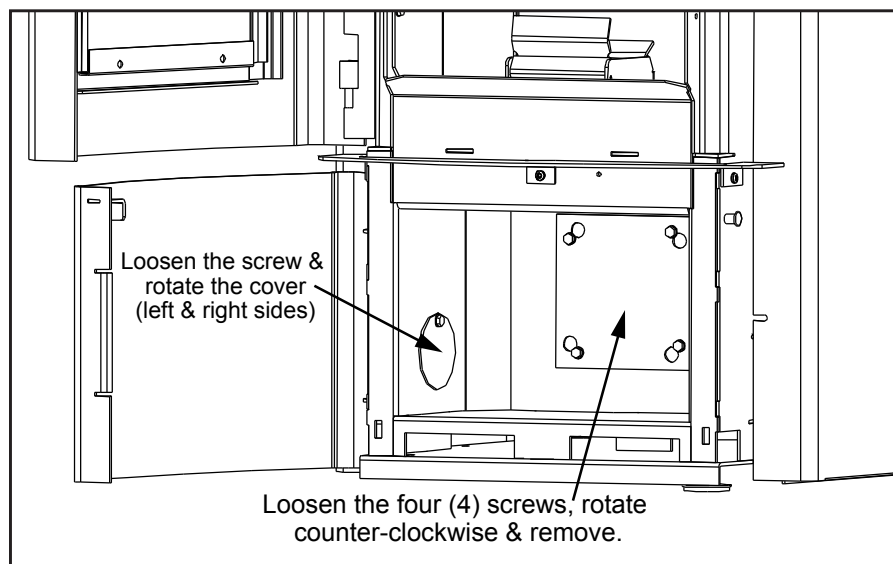

Figure 9: Mini Clean-Out Covers.
- Using a  $\frac{5}{16}$ " socket, loosen the six (6) screws in the ash box compartment; four (4) on the back and one (1) on each side (see Figure 9).
- Vacuum out all three (3) chambers.